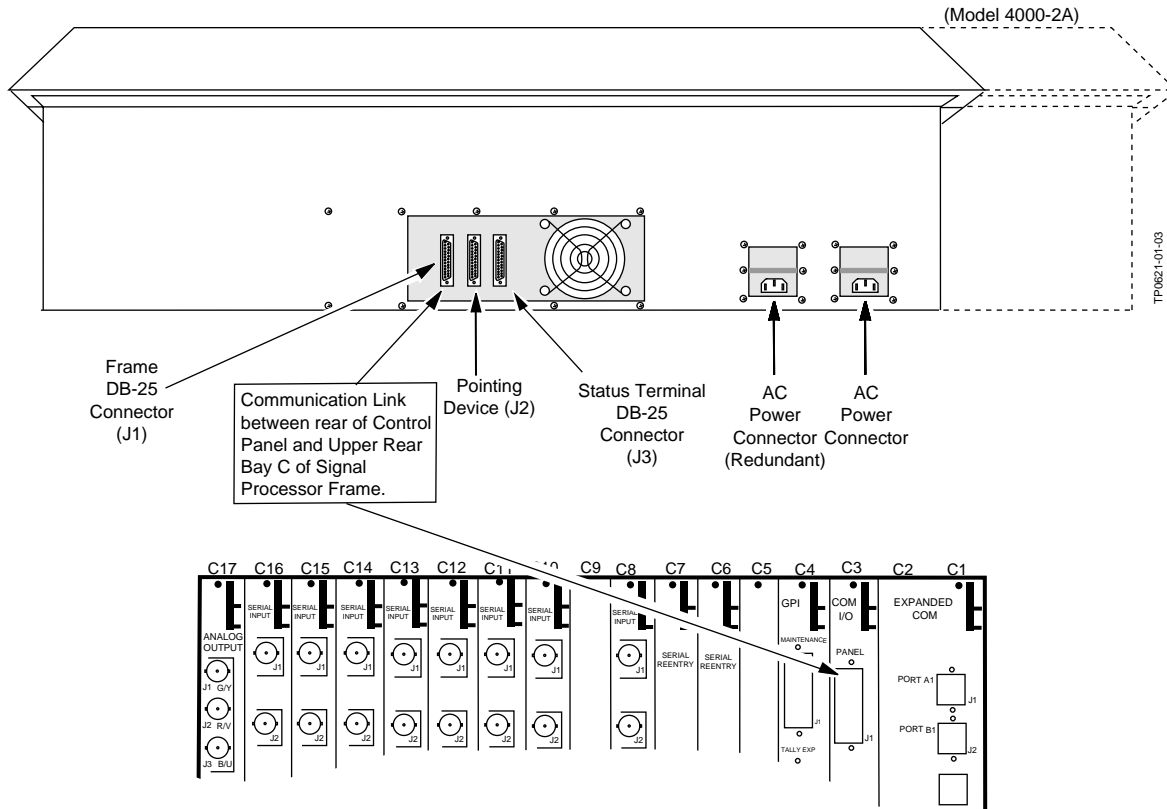

Figure 2-35. Control Panel Connections
1. Connect the interconnect control cable to the connector marked J1 on the rear of the Control Panel as shown in Figure 2-35.
2. Connect the other end of the interconnect control cable to J1 (PANEL) on the COM I/O Module in the top rear bay (Slot C3) of the Signal Processor Frame illustrated in Figure 2-35.